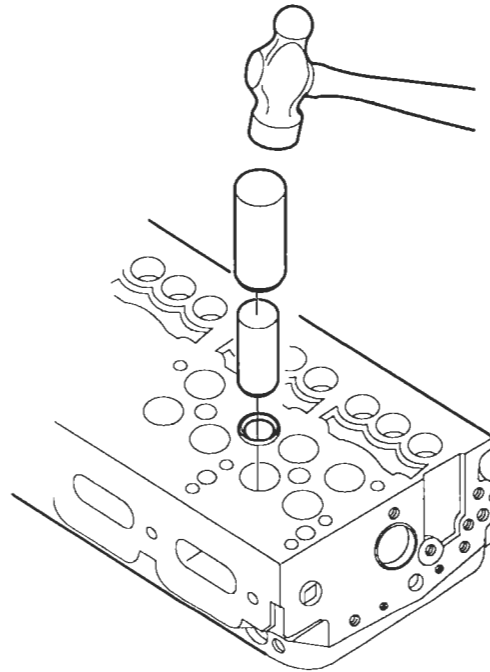

Figure 12. Installing Valve Seat Insert
5. Drive the insert in place with installer J 1736 (two-valve head) or J 6568 (four-valve head) until it seats solidly in the cylinder head (Figure 12.)